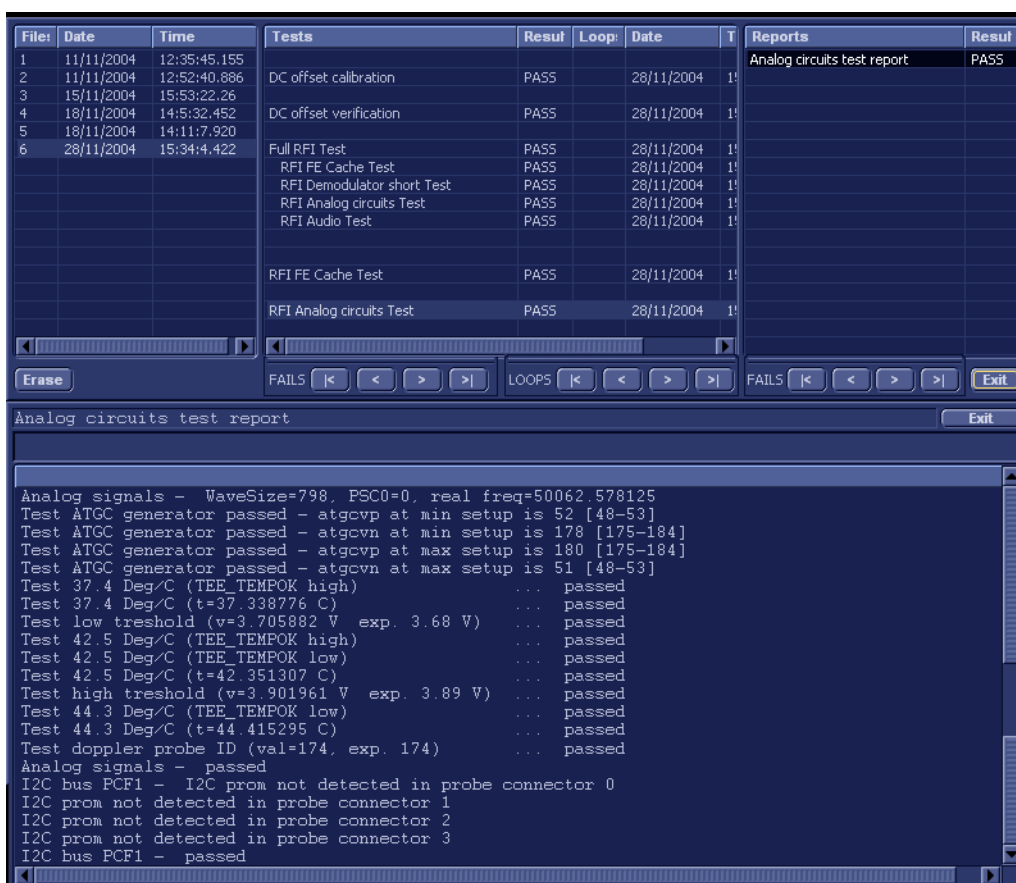

Figure 7-16 View Test Log - RFI Analog Circuits Test
- the View Test Log window opens automatically, listing all tests performed and showing details of which tests passed or failed, as shown in the example in Figure 7-16.
Note: For this test, there is one report (Analog Circuits Test report) which is listed in *Reports* on the right. By default, this report is displayed in the Reports window below (Figure 7-16). Use the Report window scroll bars and/or arrows to scroll through complete report if necessary.